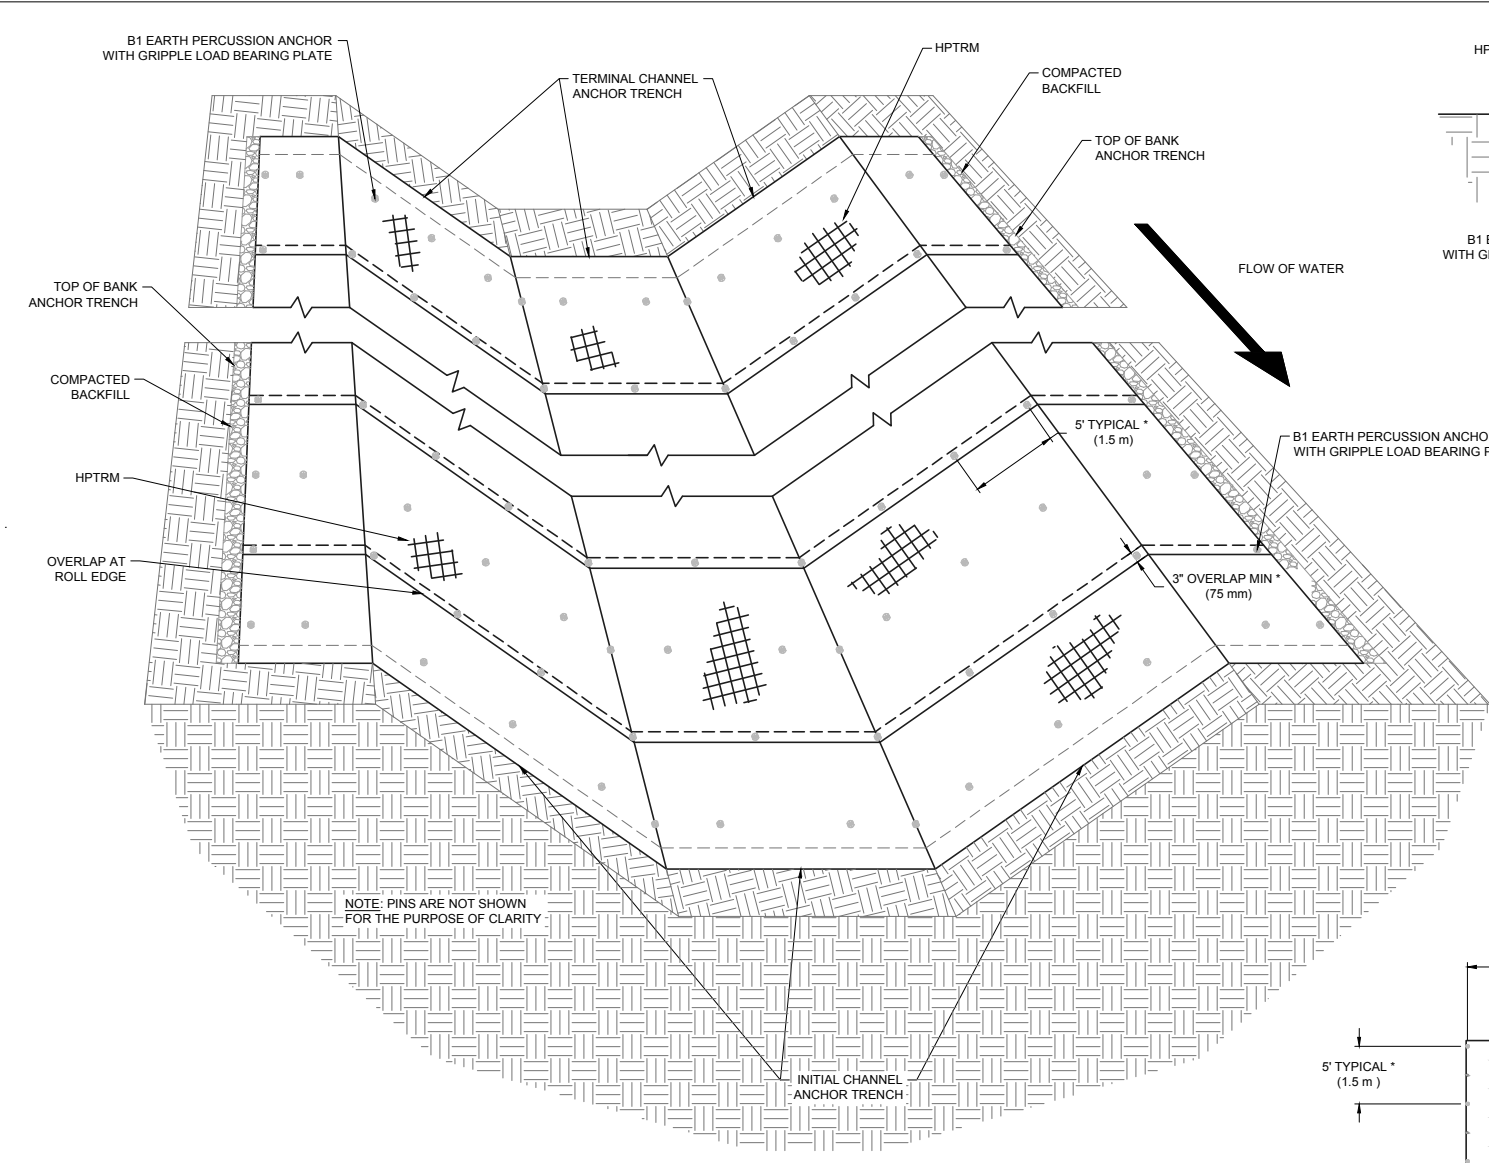

FIGURE 1: INSTALLATION OF ARMORMAX SYSTEM IN A CHANNEL
- Figure 1 shows general installation layout and details for Armormax System in storm water channels. (The details on this page are for 8.5 ft wide HPTRM roll widths, for 10.5 ft wide applications see Drawing #C100A)